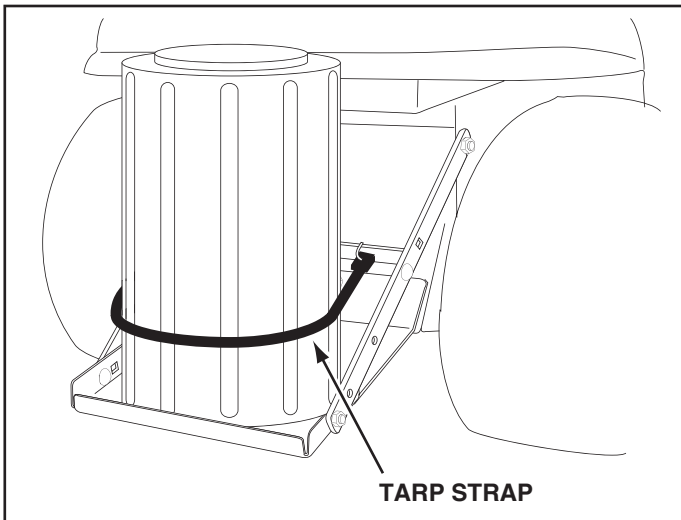

FIGURE 25 **VIEWED FROM REAR**
- Secure the keg with the rubber tarp strap hooked into the holes in the cross brace. See figure 25.